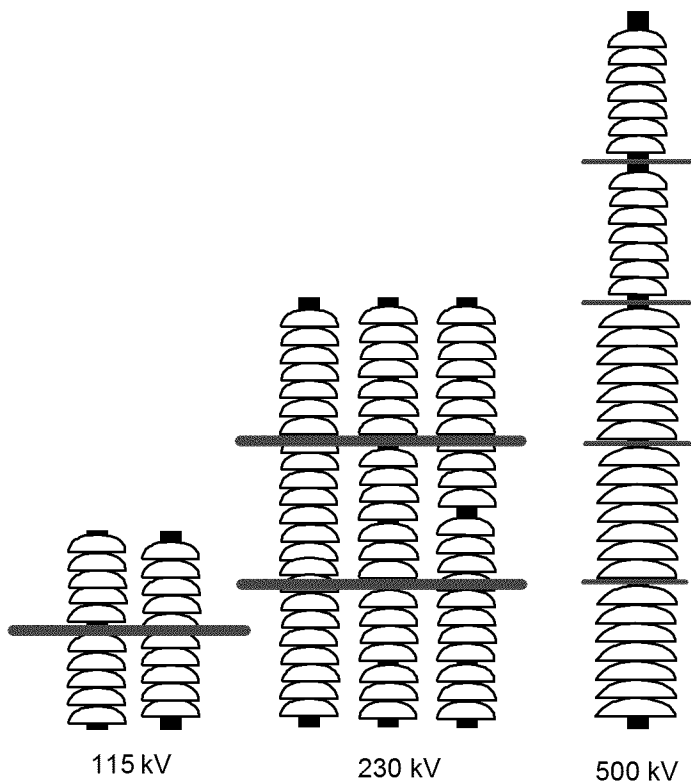

Figure 5-9
- A. Whenever practical, divide each post-type and set of string-bells into sections, regardless of mechanical breaks or joints as outlined below. (See Figure 5-9 on Page 5-17.)